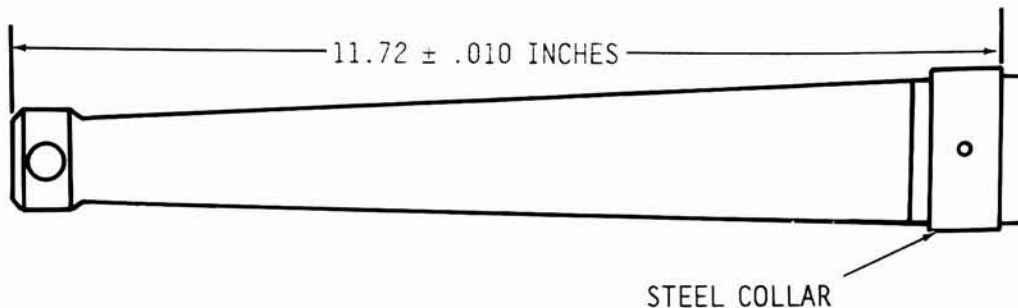

Figure 1.
2. Inspect the main landing gear strut for security of the steel collar to the strut (see Figure 1). If the distance between the steel collar and the end of the strut is greater than $11.72 \pm .010$ inches as shown in Figure 1, the collar has separated. If the collar has separated, remove the collar and thoroughly clean the strut at the collar location. Remove all traces of bonding agent with 200 grit sandpaper (obtain locally). If the collar is secure, proceed to step 7.
6. With the strut supported on a bench, locate the collar on the strut in accordance with Figure 1 using care not to contaminate prepared surfaces. Inject P/N EA9309 QT adhesive (mix per manufacturers instructions) into the hole in the collar using a disposable 3 c.c. syringe (obtain locally). Carefully rotate the collar, maintaining the correct collar location, and inject adhesive into the collar a second time. **REPEAT THE PROCEDURE UNTIL CERTAIN THAT NO AIR POCKETS REMAIN INSIDE THE COLLAR.** Re-check the measurements in accordance with Figure 1, and tape the collar in place with masking tape. Allow adhesive to cure 24 hours at room temperature before installing the strut. The use of a heat lamp approximately 12-15 inches from strut is recommended. After curing, remove all excess adhesive from the strut and collar using scotch-brite or equivalent (obtain locally).